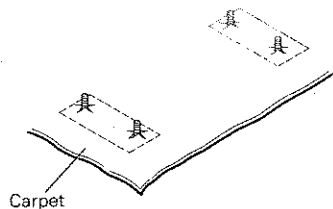

Fig. 5
5. Put the carpet back, cut it for the screws as shown and pass the screws through the holes. (Fig. 5)